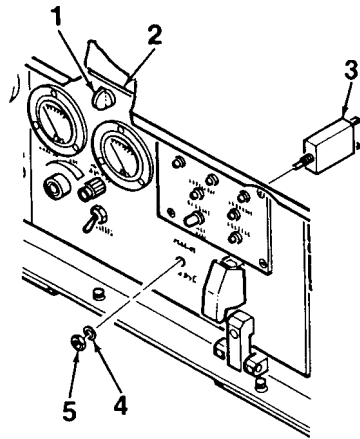

Figure 4-12. DC CIRCUIT BREAKER
1. Turn quarter-turn fasteners (1, Figure 4-12) to unlock and open control panel (2).
2. Tag and disconnect electrical wiring from the rear of DC CIRCUIT BREAKER switch (3).
3. Remove DC CIRCUIT BREAKER switch (3) from control panel (2) by removing attaching nut (4) and lockwasher (5).
1. Mate DC CIRCUIT BREAKER switch (3, Figure 4-12) to rear of control panel (2). Secure using nut (4) and lockwasher (5).
2. Connect electrical wiring to the rear of DC CIRCUIT BREAKER switch (3).
3. Close control panel (2) and lock in place using quarter-turn fasteners (1).